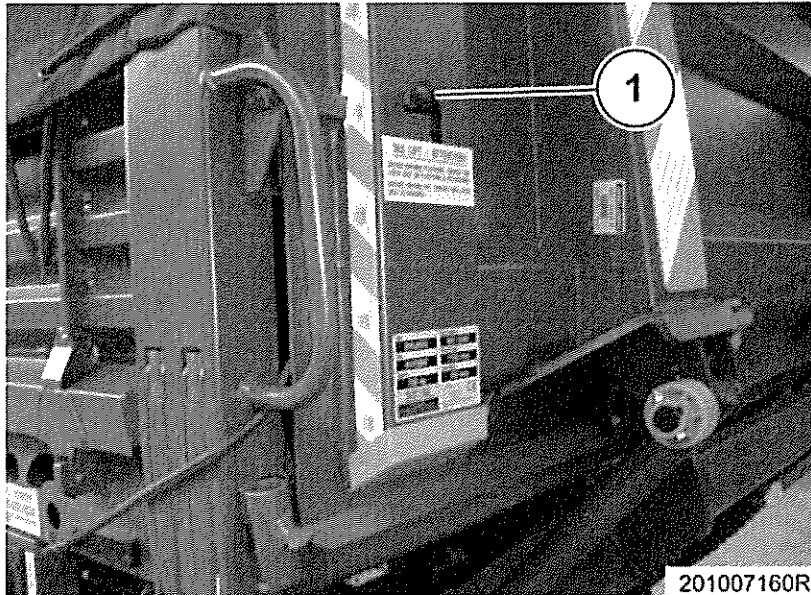

Fig 4 Tail lift platform stowage lock
7 Refer to Fig 4. When in the closed position, the tail lift platform is mechanically locked with the platform stowage lock (1).